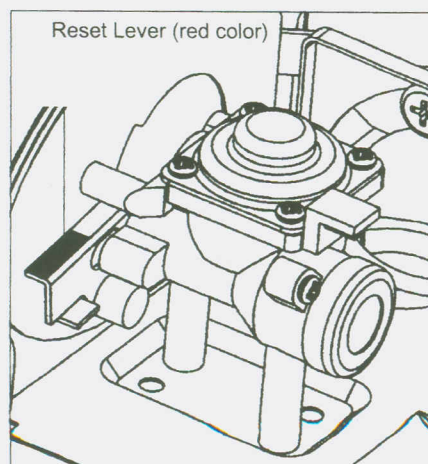

Fig.28
- Press the reset lever (red color) with finger to take the edge of reset lever off the groove of pin. Make sure pin retracts when pressing the reset lever. The unit will return to normal condition. (In case a new fuel cartridge has high inner pressure, the safety stop mechanism will repeat the same function again.) (Fig. 28, 29, 30)